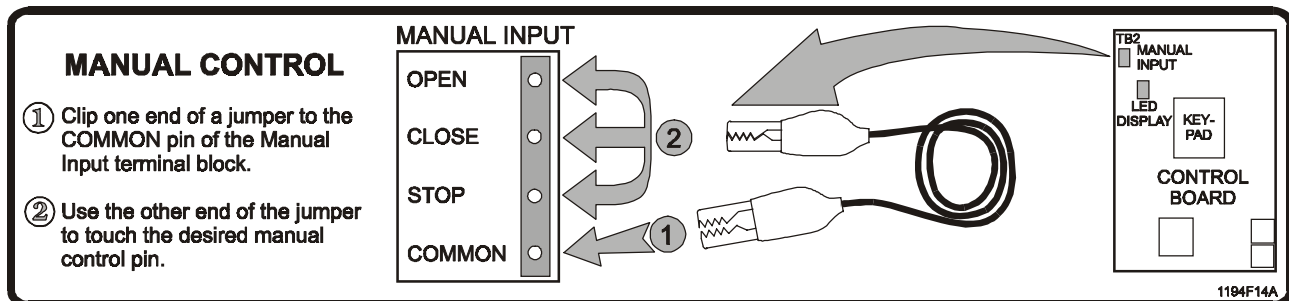

Figure 13. Manual Controls, Location and Operation.
Use the manual controls on Manual Input Terminal TB2 (OPEN, CLOSE, and STOP, as shown in Figure 13), to move the gate arm for installation and to cycle the gate when making the limit cam adjustments.
3. Using the manual controls (Figure 13), initiate gate opening, then stop the gate about one foot short of its fully open position.